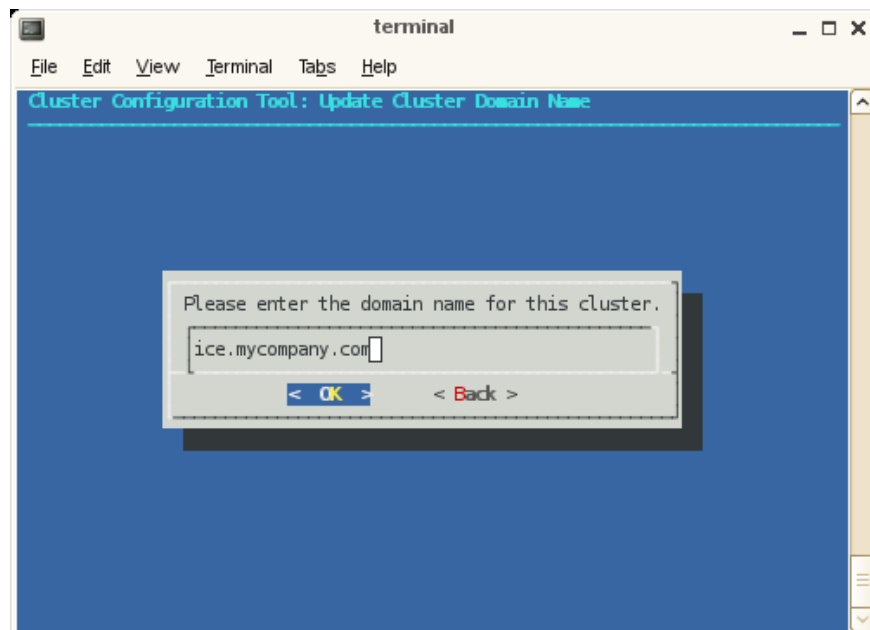

Figure 2-27 Update Cluster Domain Name Screen
12. Enter the domain name for your Altix ICE system, as shown in Figure 2-27 on page 70. Click **OK** to continue (this will be a subdomain to your house network, by default).